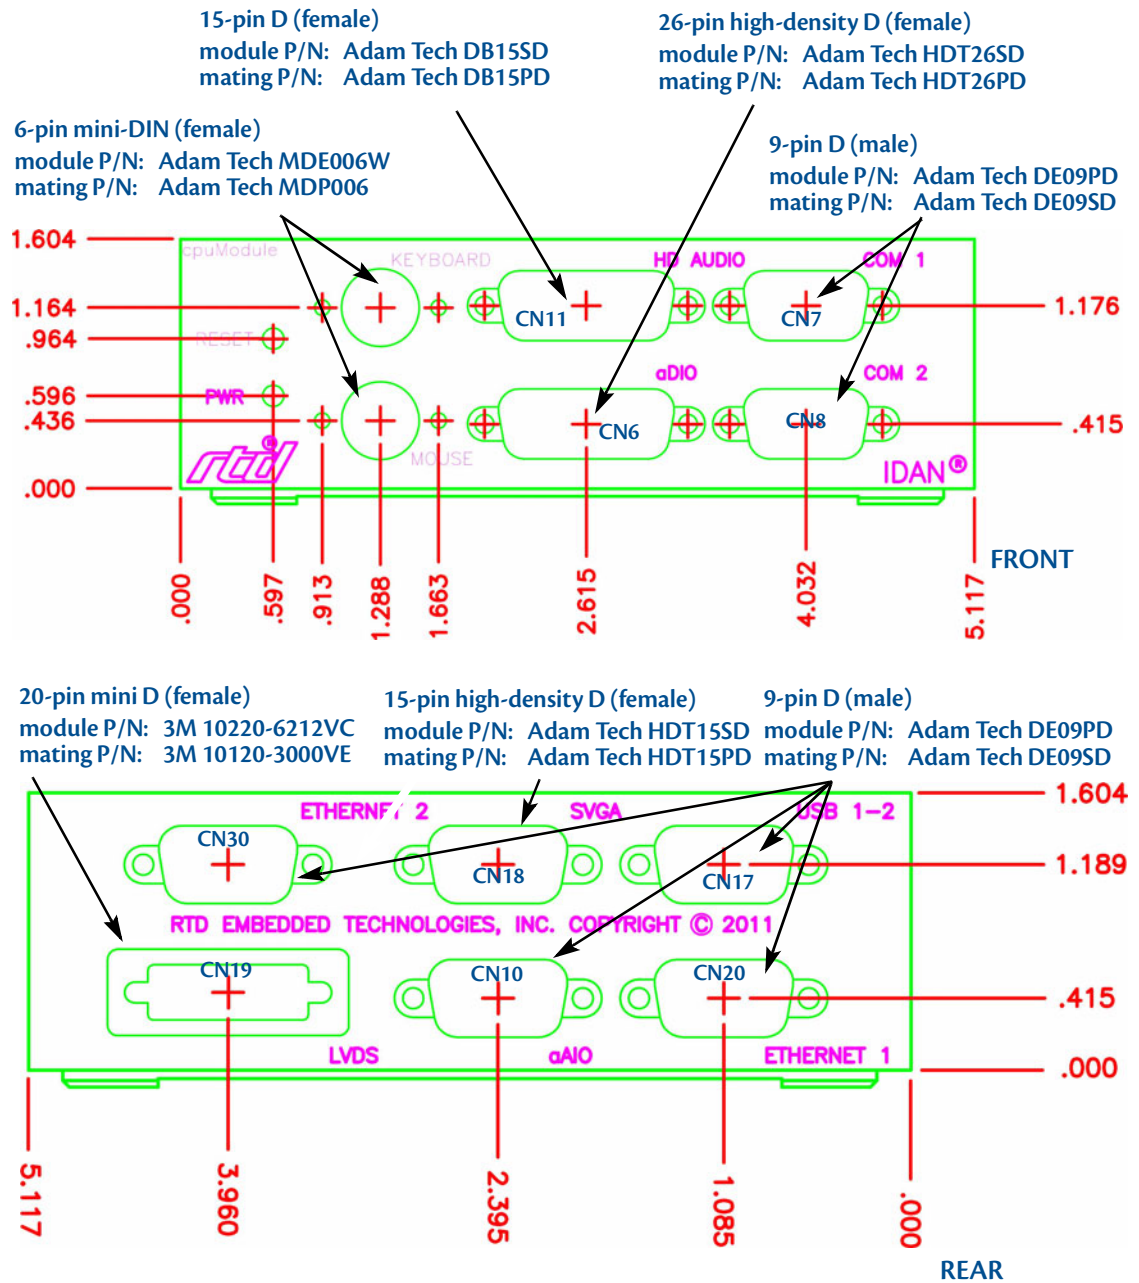

Figure 11 IDAN-CMX32M Connectors^{1,2}
1. Heatsink fins (not shown in Figure 11) extend 0.75 inches from the sides of the IDAN frame.